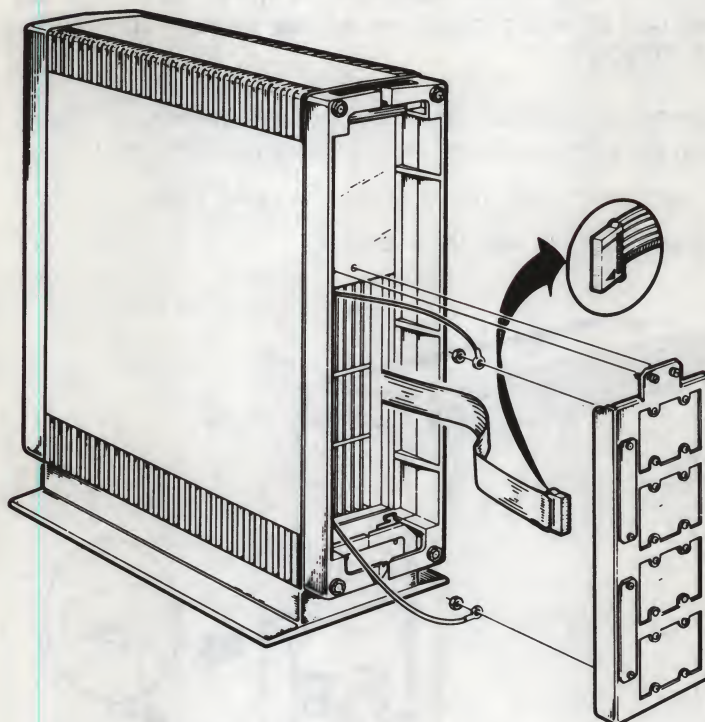

Figure 1-6 Remove the I/O Distribution Panel
- Remove the I/O distribution panel (Figure 1-6).